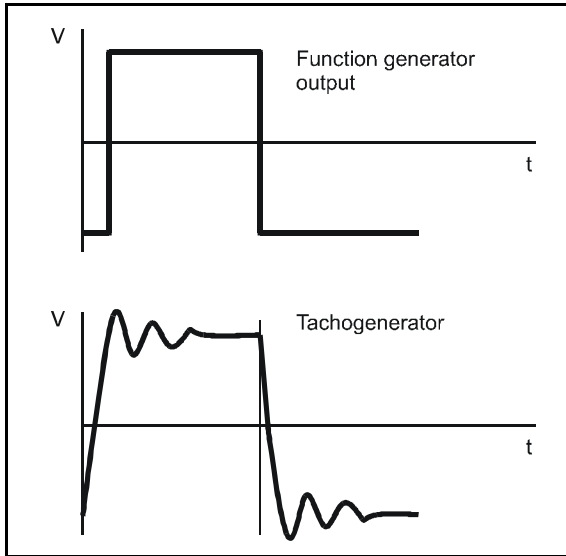

Figure 4-3 Waveform resulting from insufficient proportional gain
11. The waveform could be as shown in Figure 4-3. In this case, the system has insufficient dynamic gain. Turn the PROPORTIONAL potentiometer clockwise to obtain a waveform without oscillation.